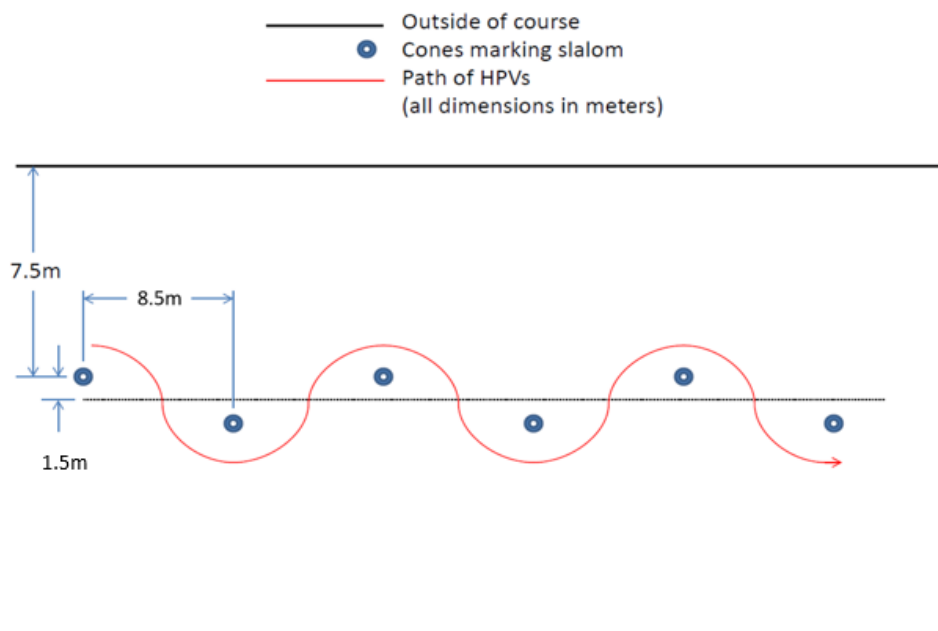

Figure 2: Slalom course (Note: actual layout subject to limitations of venue)
4. A slalom section consisting of a series of tight turns as shown in Figure 2. Knocking a tennis ball off of a cone constitutes failure of the obstacle.